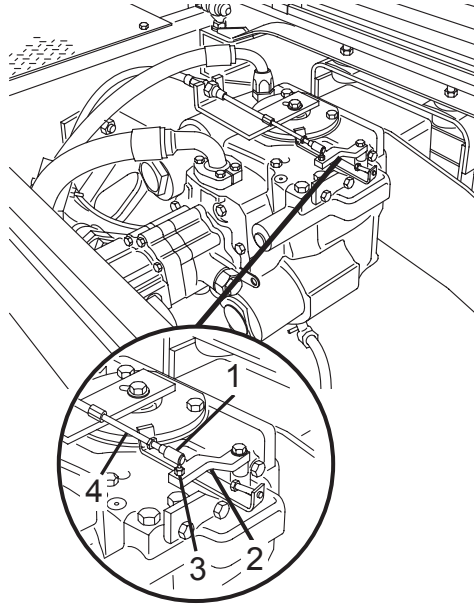

Figure 69
1. Move the pump control lever (Figure 69, Item 2) to engage the drum drive in the CHARGE direction. Move the lever until the drum is rotating at approximately 1 to 1-1/2 RPM in the CHARGE direction.
3. Once the truck is delivered to the repair shop and properly parked, return the pump control lever to the neutral position, and connect the control cable (Figure 69, Item 4) to the pump control lever (Figure 69, Item 2), by pulling back the head (Figure 69, Item 1) of the cable and installing the cable over the pivot (Figure 69, Item 3). Release the cable head (Figure 69, Item 1).
5. Call Revolution Mixers Support at (855) 202-6491 if you have questions or need help.